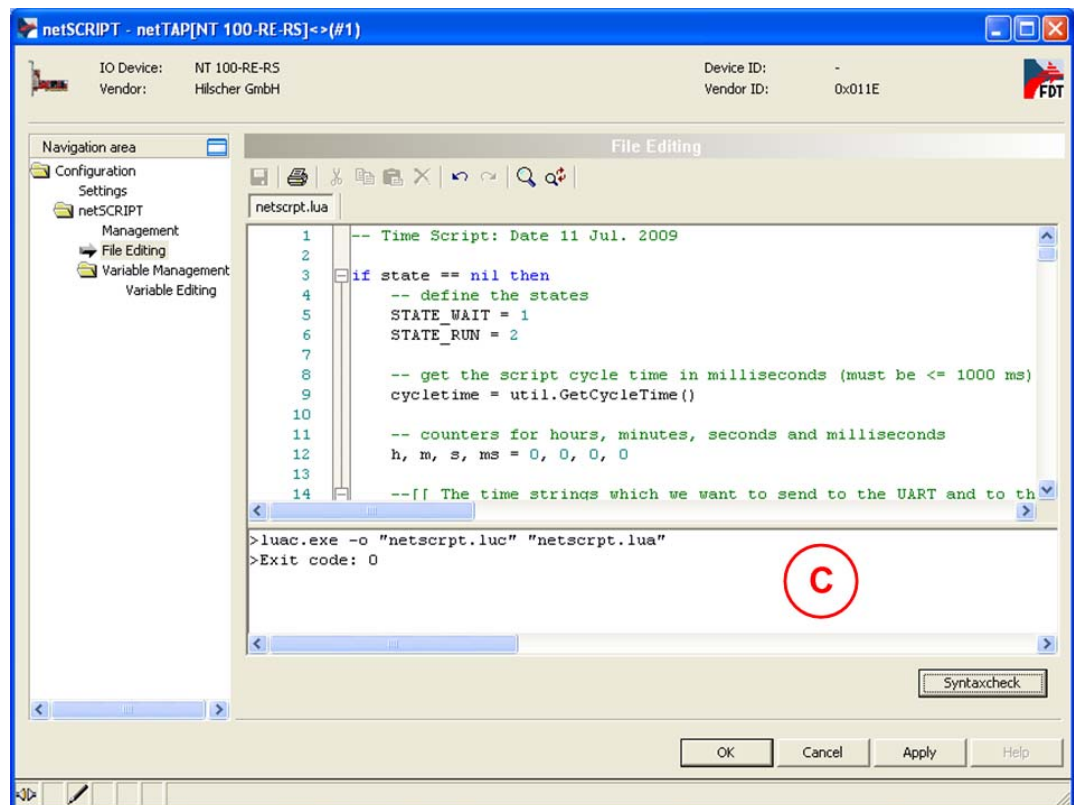

Figure 6: Editor Window Syntax check
③ In this line, tools for script editing are offered.
④ In this column, the line number of the script is displayed.
⑤ With this button, the actual script file in the editor window can be submitted to a syntactic check.
The additional window pane (C) opens (see Figure 6), where the result of the checking is displayed.
⑥ With this button, the entries of this window are saved. Afterwards the window is closed.
⑦ With this button, you exit the window without saving.
⑧ With this button, the data are saved. The window remains opened.
⑨ With this button, you reach the help topics pertaining to this window.